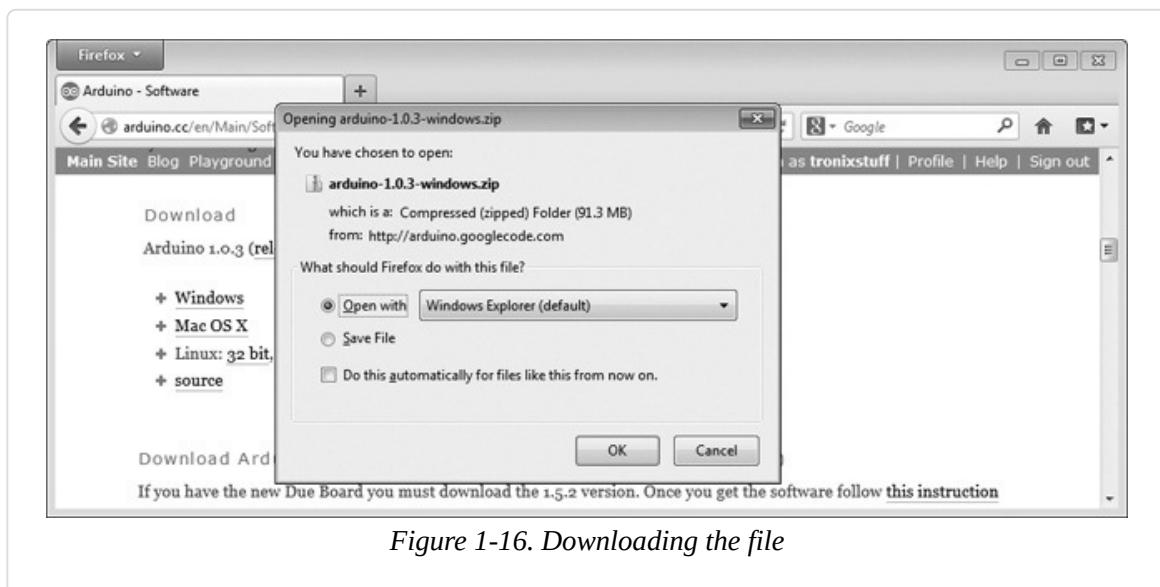
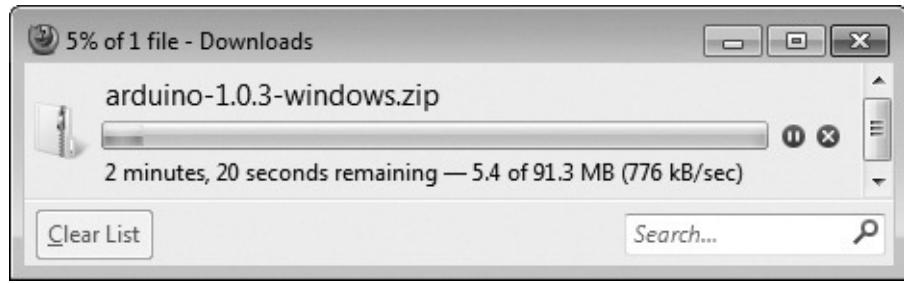

Figure 1-16. Downloading the file
Figure 1-17. Firefox shows the progress of your download.
2. Click the **Windows** link, and the dialog shown in **Figure 1-16** will appear. Select **Open with Windows Explorer**, and then click **OK**. The file will start to download, as shown in **Figure 1-17**.